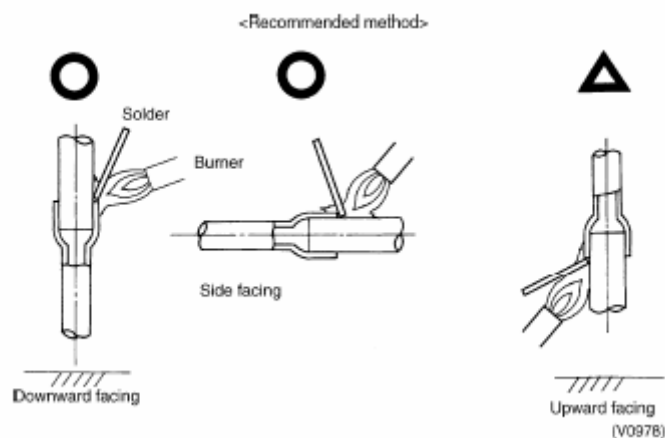

Figure 3-1-3
- ◆ Welding port shall be upward and horizontal when welding the pipeline. Try to avoid the face-down boning as figure 3-1-3 which easily affects welding quality and causes leakage.